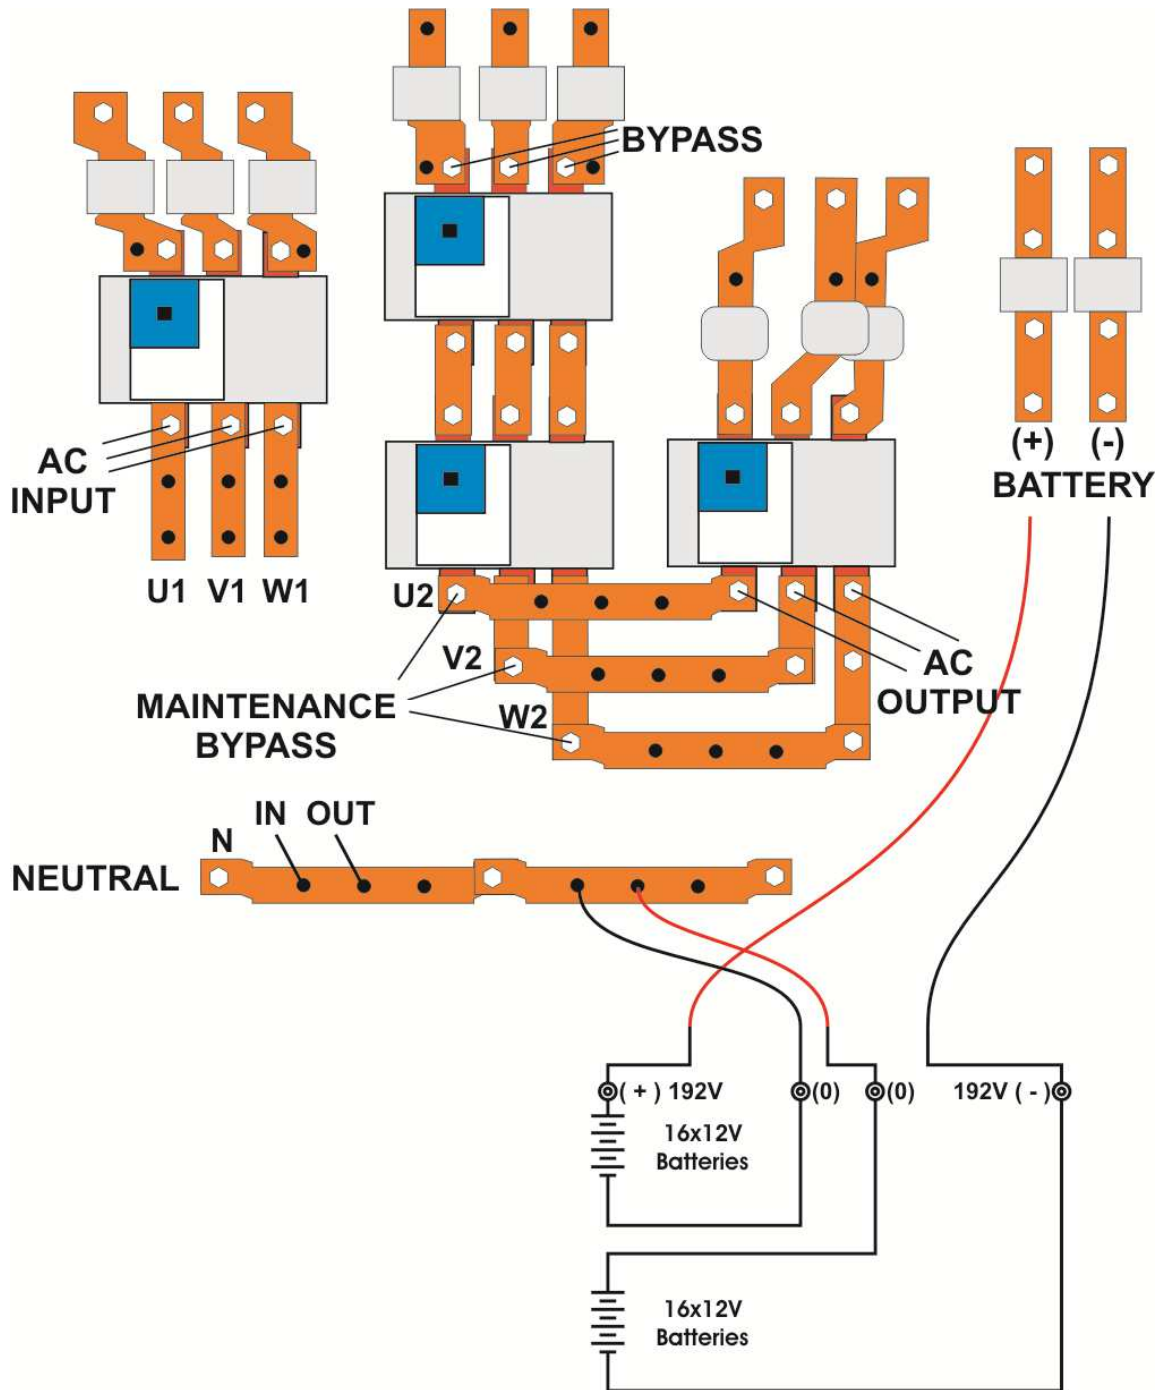

Figure 2.2 100 - 125 - 150 - 200 kVA POWER Cable Connection
Descriptions of the UPS input output cable connection terminals are shown in figure 2.2
2. Connect the 3 phase AC input coming from the mains distribution panel to the AC input terminals as shown on the label. (Figure 2.2)